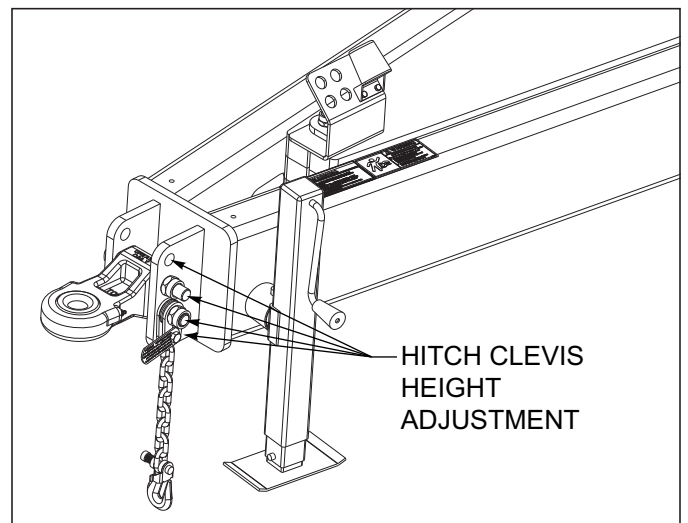

Figure 4-8: Hitch Clevis Height
1. The hitch clevis height should be adjusted to match the drawbar height of the tractor. This will allow the hitch to operate through its most efficient range and level throughout the field See Figure 4-8